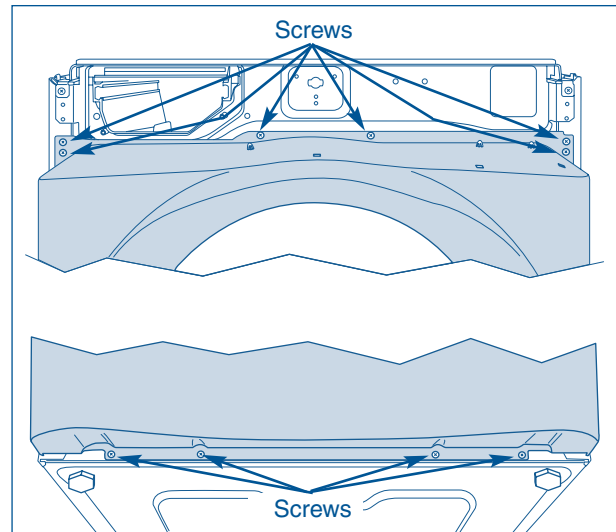

Figure 4-27.
4. Using a #2 square bit screwdriver, extract the four screws along the bottom front edge. (See Figure 4-27)
5. Extract the six screws along the top front edge. (See Figure 4-27)